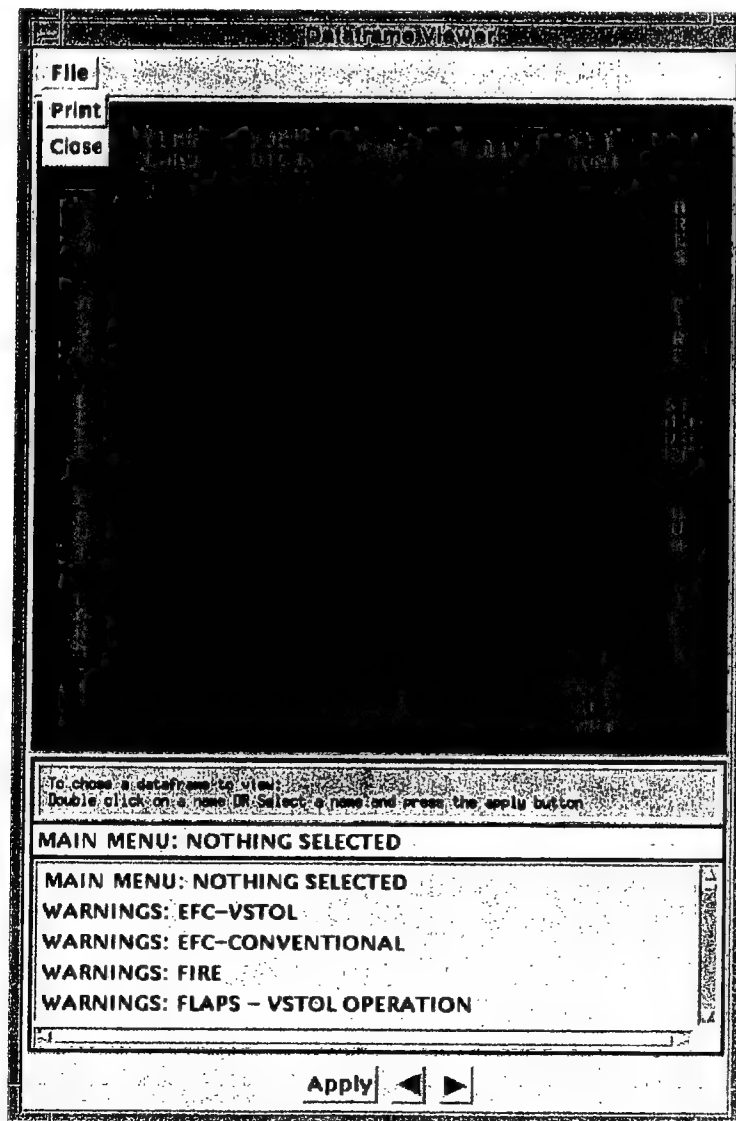
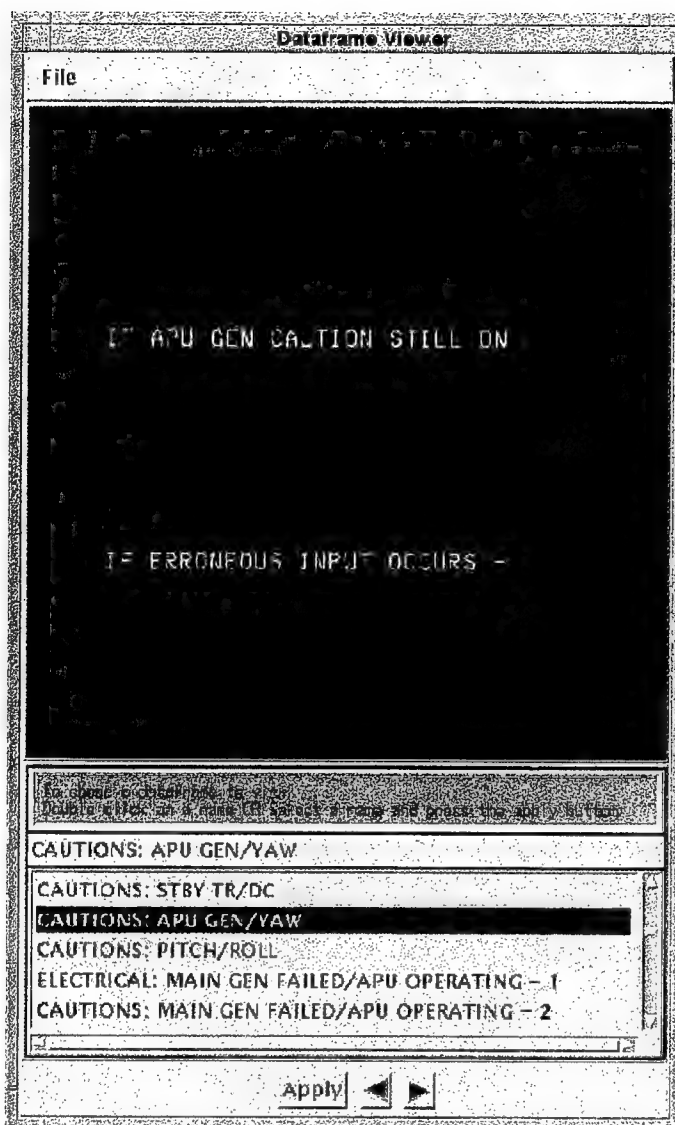

Fig. 46 — Dataframe Viewer Window
Fig. 47 — Sample dataframe
3.3.6.3.2 View Dataframes — MMC provides a function to view and print any dataframes (including checklists) in the current AODI. First, open an AODI - containing checklists or other dataframes - by clicking on *File* in the **MMC Window**, then *Open Image* (Section 3.3.1.4). Then click on the *Tools* menu, *Dataframes Options*, *View Dataframes* to start a **Dataframe Viewer Window** listing all dataframes in the current AODI (Fig. 46). To view a dataframe, scroll through the list with the scroll bar (at the right of the list) and double-click (with the left mouse button) on the desired filename. Alternatively, use the arrows at the bottom of the window to scroll through the list, displaying each dataframe in turn (Fig. 47). To print a copy of the dataframe, click on *Print Screen* under the *File* menu. To exit from this window, click on *File*, then *Exit*.